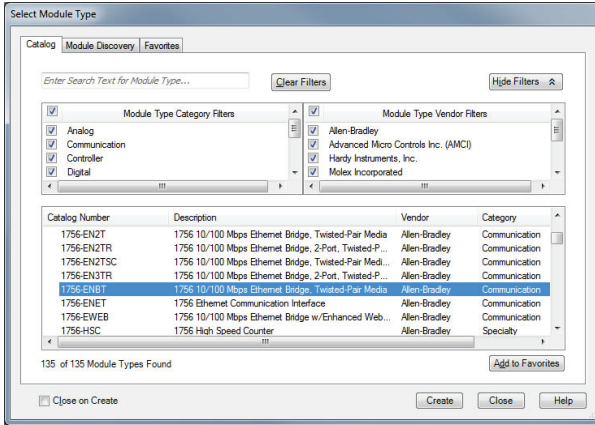

Figure 42: Adding a New Module
- 5) Select the “1756-ENBT/A”, and click “Create”. Refer to Figure 42.